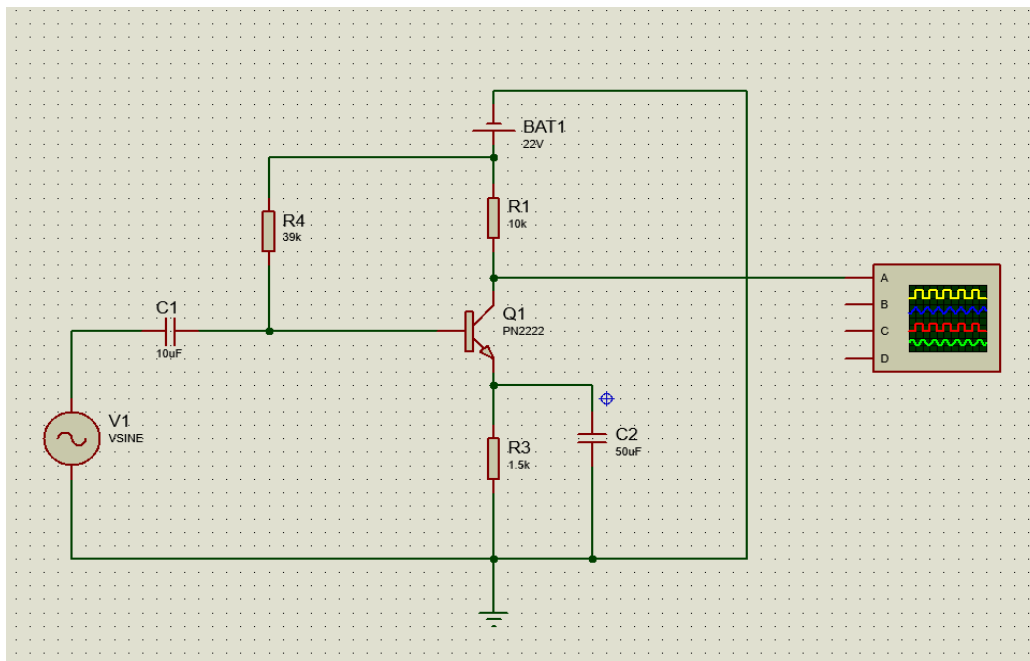

Figure: 1.13
7. After connecting the oscilloscope, the circuit will look like Figure 1.13.